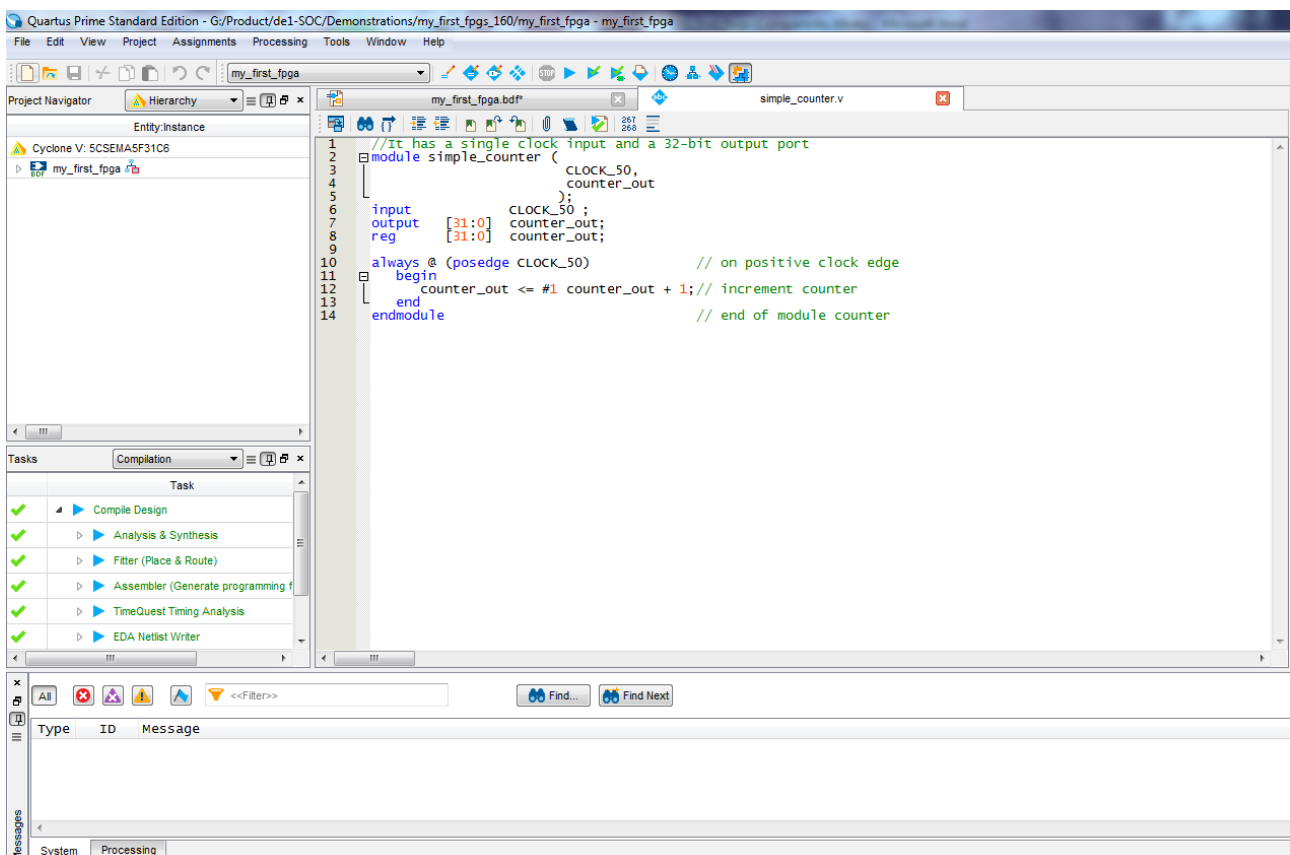

Figure 3-4 The Verilog File of simple_counter.v
8. Type the following Verilog HDL code into the blank `simple_counter.v` file (see **Figure 3-4** The Verilog File of `simple_counter.v`).